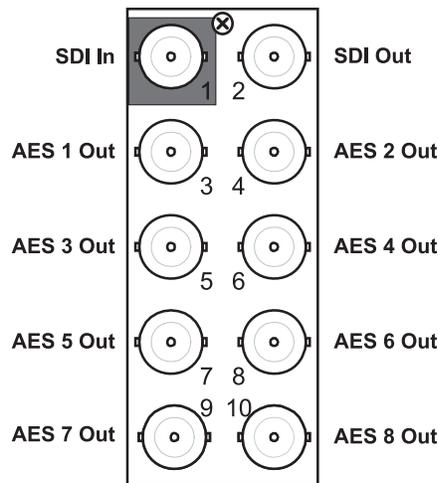

Figure 5 Cable Connections for the DMX-8259-A
- **DFR-8310 series frames** — The **8310AR-030** rear module is required. The DMX-8259-A is also compatible with the DFR-8310-BNC frame (with the cooling fan option installed). This rear module provides one SDI input, one SDI output, and eight AES unbalanced outputs at 75ohm. (**Figure 5**)
- **DFR-8320, OG3-FR, and OGX-FR series frames** — The **8320AR-041** rear module is required. This rear module provides one SDI input, one SDI output, and eight AES unbalanced outputs at 75ohm. (**Figure 5**)